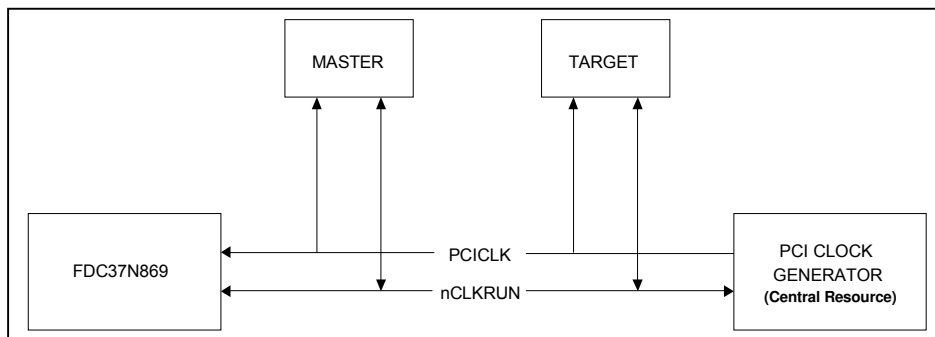
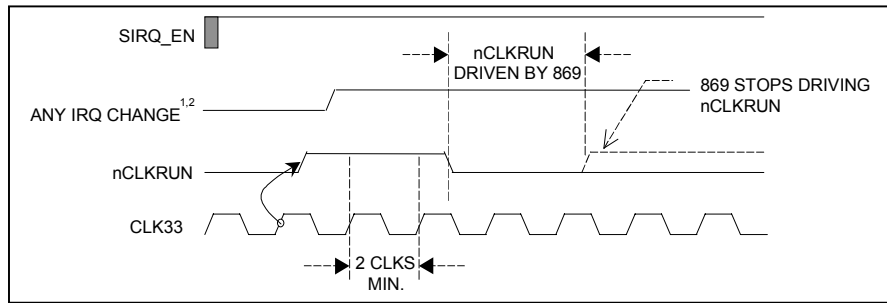

FIGURE 6 - nCLKRUN SYSTEM IMPLEMENTATION EXAMPLE
FIGURE 7 - CLOCK START ILLUSTRATION
The FDC37N3869 supports the PCI nCLKRUN signal. nCLKRUN is used to indicate the PCI clock status as well as to request that a stopped clock be started. See Figure 6 for an example of a typical system implementation using nCLKRUN.
If nCLKRUN is sampled “high”, the PCI clock is stopped or stopping. If nCLKRUN is sampled “low”, the PCI clock is starting or started (running). If a device in the FDC37N3869 asserts or de-asserts an interrupt and nCLKRUN is sample “high”, the FDC37N3869 can request the restoration of the clock by asserting the nCLKRUN signal asynchronously (Table 74). The FDC37N3869 holds nCLKRUN low until it detects two rising edges of the clock. After the second clock edge, the FDC37N3869 must disable the open drain driver (Figure 7).
The FDC37N3869 must not assert nCLKRUN if it is already driven low by the central resource; i.e., the PCI CLOCK GENERATOR in Figure 6. The FDC37N3869 must not assert nCLKRUN unless the line has been deasserted for two successive clocks; i.e., before the clock was stopped (Figure 7).
- Note 2:** The FDC37N3869 must continually monitor the state of nCLKRUN to maintain the PCI Clock until an active “ANY IRQ CHANGE” condition has been transferred to the host in a Serial IRQ cycle. For example, if “ANY IRQ CHANGE” is asserted before nCLKRUN is de-asserted (not shown in Figure 7), the FDC37N3869 must assert nCLKRUN as needed until the Serial IRQ cycle has completed.